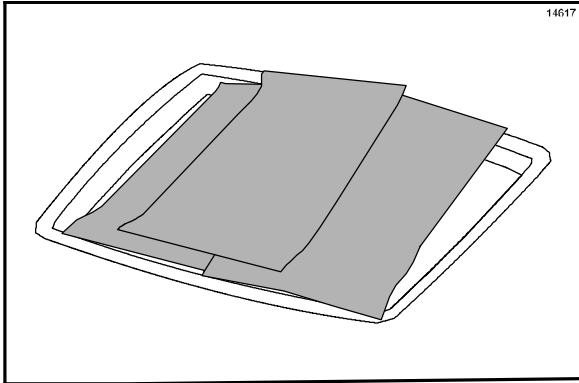

Figure 44
- Place all release sheets flat on the release sheet storage tray. DO NOT fold, crease, or place them on sharp objects. DO NOT clean them in the 3-compartment sink. (See Figure 44.)